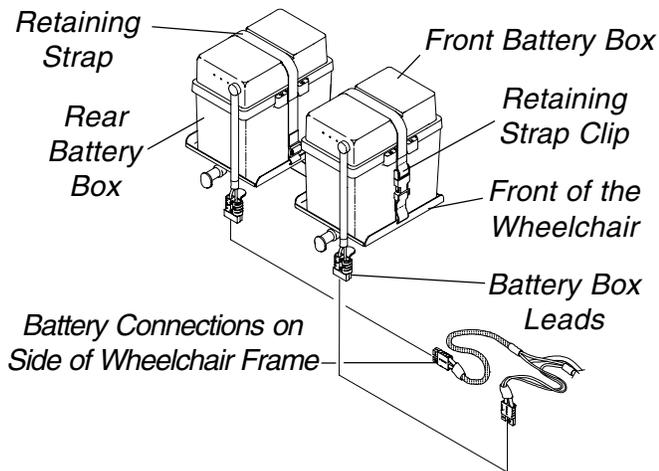

FIGURE 7 - INSTALLING/REMOVING BATTERY BOXES
**INSTALLING/REMOVING BATTERY BOXES (FIGURE 7)**
4. Position retaining straps around each battery box as shown in DETAIL "A" of FIGURE 7 and clip retaining strap together.